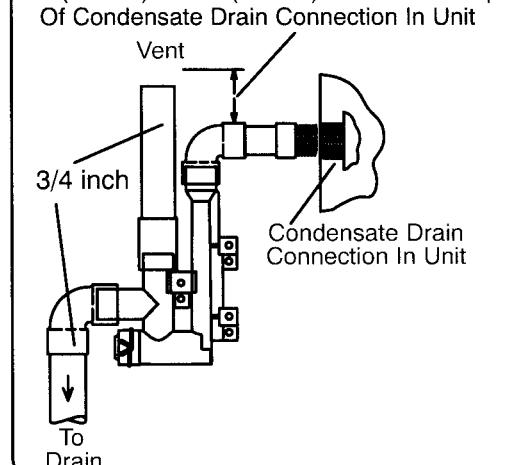

Figure 58. Trap / Drain Assembly Using 1/2" PVC or 3/4" PVC
This unit is designed for either right or left side exit of condensate piping in upflow applications. In horizontal applications, the condensate trap must extend below the unit. An 8" service clearance is required for the condensate trap. Refer to Figure 52 and Figure 53 for condensate trap locations. Figure 58 shows trap assembly using 1/2" PVC or 3/4" PVC.
3. Install the cap over the clean out opening at the base of the trap. Secure with clamp. See Figure 58.
4. Install drain trap using appropriate PVC fittings, glue all joints. Glue the provided drain trap as shown in Figure 58. Route the condensate line to an open drain. Condensate line must maintain a 1/4" downward slope from the furnace to the drain.